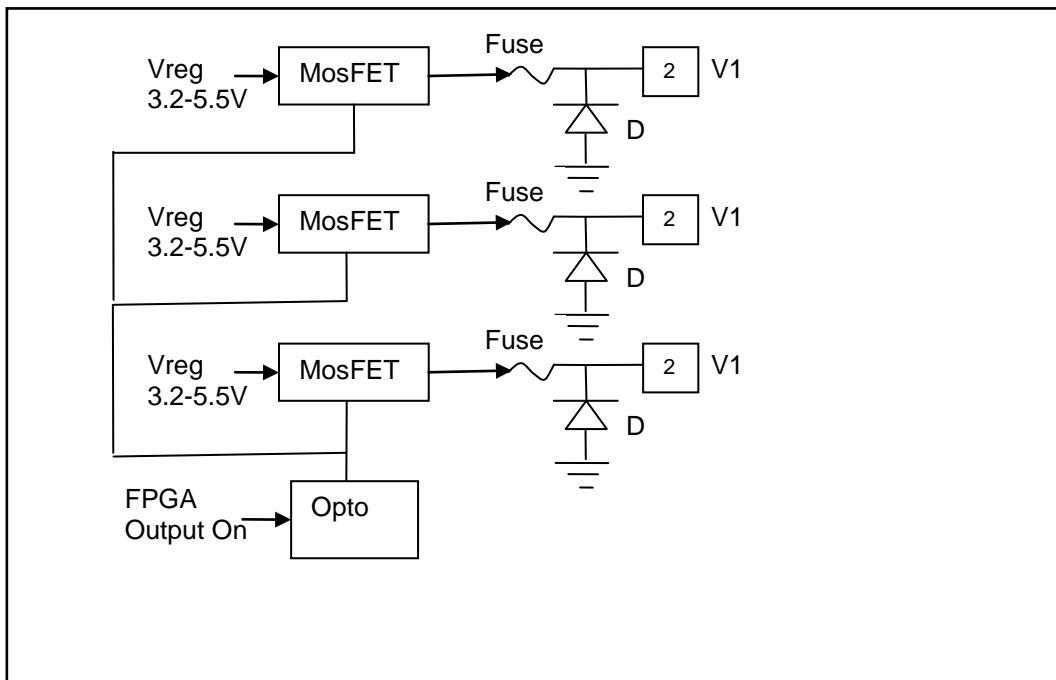

Figure 3: Gated and Protected V1, V2, Vled Outputs
As shown in Figure 3, MosFET IRL6342PBF connects output of LM1117 (VReg) to J3 and J4 (V1,V2,Vled). This circuit allows turning on/off all 3 voltages simultaneously. Diode (D) protects the outputs by clamping the voltage at 6V for V1, V2 and 9.4V for Vled . Fuse prevents excessive load.
As shown in Figure 3, V1, V2, Vled are converted to digital values by AD7478 which is an 8 bit analog to digital converter with serial output. The output of AD7478 is connected to Artix FPGA.